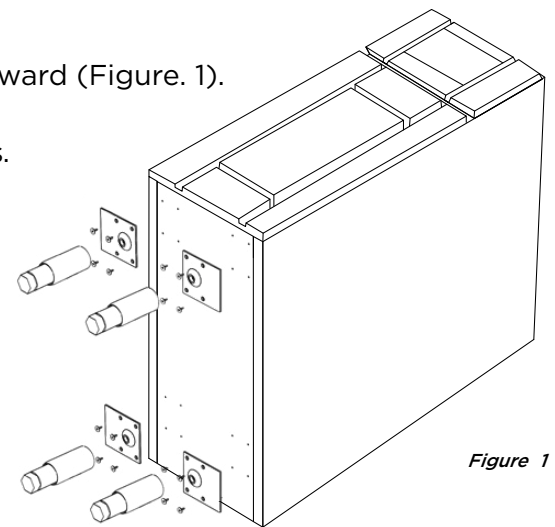

Figure 1
1. Place the cabinet on a soft surface with the door facing upward (Figure 1).
2. With the bottom of the cabinet facing you, locate the pilot holes. Position the Leg Plates over the pilot holes with the flange facing the outside of the cabinet (Figure 1).